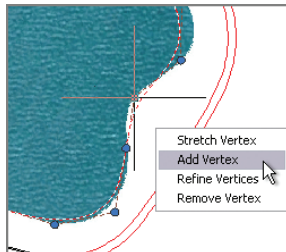

FIGURE 5.13 Adding and removing vertices from a CV spline using multifunction grips
5. Try adding and removing vertices using the corresponding choices on the multifunction grip menu (see Figure 5.13).